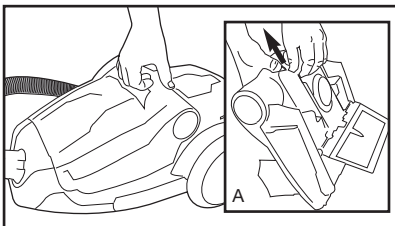

Fig.5/1
2. Lift the top dirt container release latch and lift out the dirt container (Fig.5/1).
3. Pull the release button to release the lid and empty the dirt into a suitable container (Fig.5/1A).